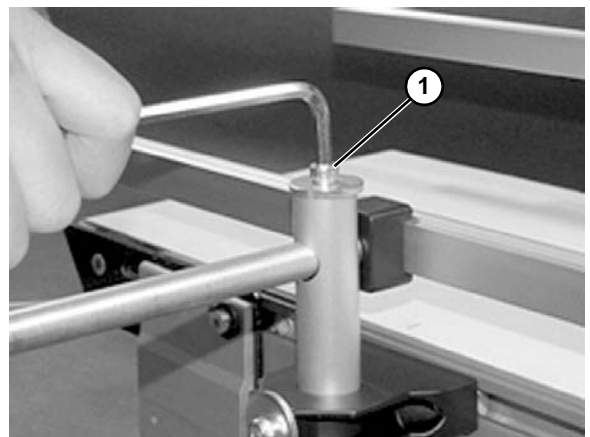

Figure 27
6. Adjust rail width with top screw (**Figure 27, item 1**).